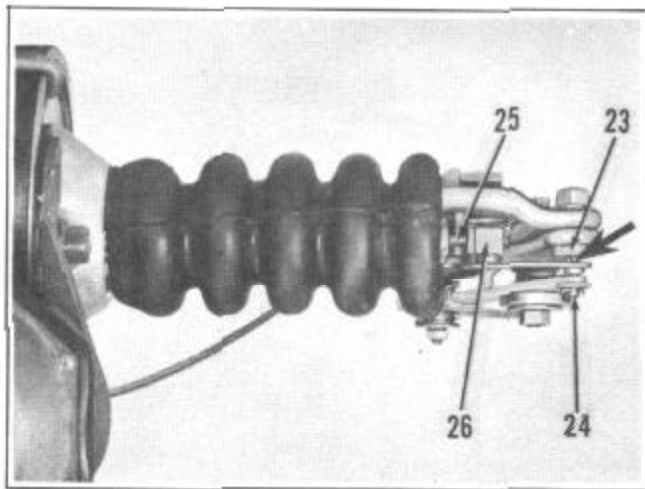

FIGURE 23
Check length of valve rod assembly (25), Figure 23. If the setting is correct the center line of the pin (24) will be exactly in line with the center line of the piston rod pivot bolt (23) as indicated by large arrow.